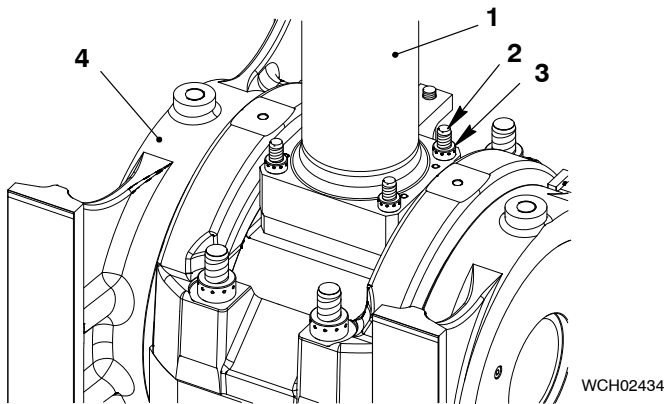

Fig. 1
- 2) Operate the turning gear to turn the crank (4, Fig. 1) to BDC.
- 3) Apply tension to the elastic stud (2) of the piston rod foot (1) with pre-tensioning jack (94340), refer to 9403 4.
- 4) Remove the four round nuts (3).